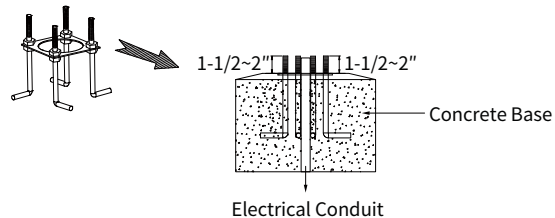

Fig 2
3. Install 4 anchor bolts into concrete as per attached **Fig. 2**, having at least 1-1/2-2" protruding from concrete with threads free and clear of debris and dirt (Electrical conduit are reserved in the concrete center).